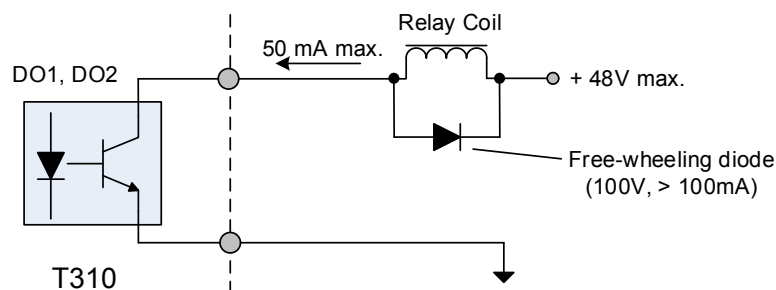

Fig. 3.5 Photo-Coupler Connected to an External Relay
(4) When the digital multi-function output terminals (DO1) are connected to an external relay, a freewheeling diode should be connected across the relay coil to prevent an inductive voltage spike from damaging the output circuitry as shown in Fig. 3.5 below.